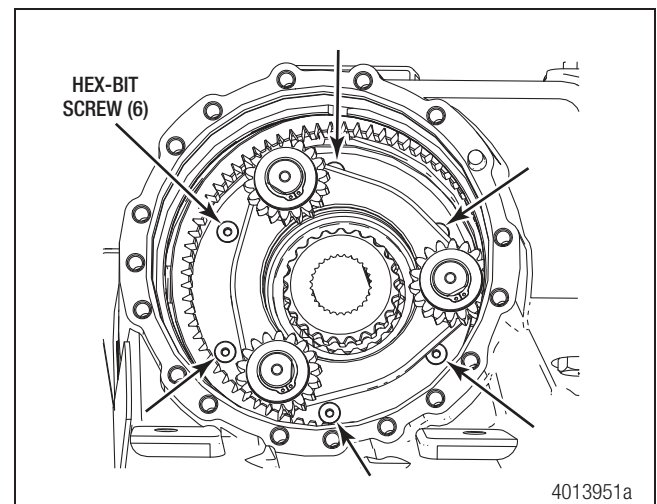

Figure 7.2
2. Apply Loctite 242 threadlocker to the six hex-bit screws. Install the six hex-bit screws securing the planetary carrier plate to the transfer case. You will have to rotate the flange around to access all of the bolt holes. Refer to "Torque Specifications" on page 57. Figure 7.2.